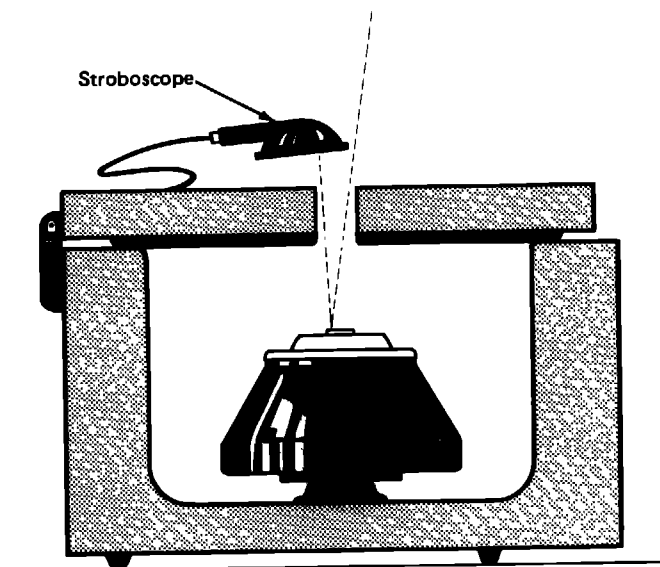

Figure 20. RPM Meter Calibration
7. When the rotor reaches the desired speed, take a stroboscopic reading through the hole in the centrifuge door.3 See Figure 20.